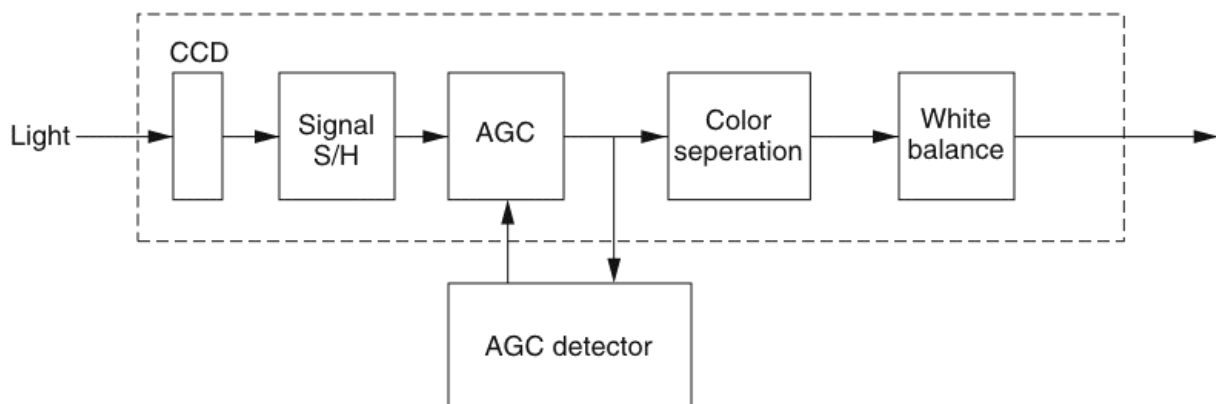

FIGURE 34-6 The Block diagram of an 8-mm signal-processing circuit.
The VHS and VHS-C signal-processing circuits often consist of the CCD or MOS image sensor, preamplifier, resampling, chroma, and luminance circuits. The 8-mm signal-processing circuits can consist of CCD image sensor, signal-separation S/H, AGC, AGC detector, color-separation S/H, and white balance (Fig. 34-6). In the 8-mm signal-processing circuits, a CCD image sensor picks up the images and feeds them to the signal-separation S/H and AGC circuits. The output of the camera-processing circuit consists of luminance (Y) and chroma (C) signals. The camera has two video output signals that are applied to the EE video signal-processing circuits in the VCR or VTR. The other is the chroma signal, which is supplied to the chroma signal-processing circuit in the VFR.